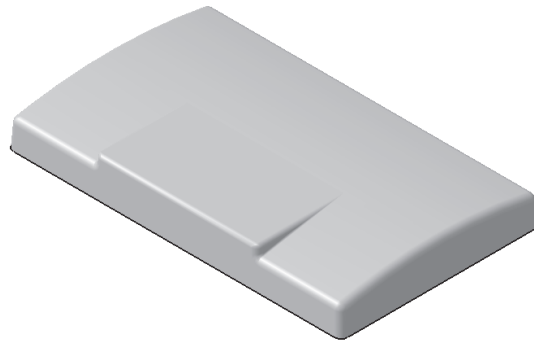

**Figure 5-97** The model, after filleting the second set
6. Choose the **OK** button from the **Edge Fillet Definition** dialog box. The model, after filleting the second set of edges, is shown in Figure 5-97.